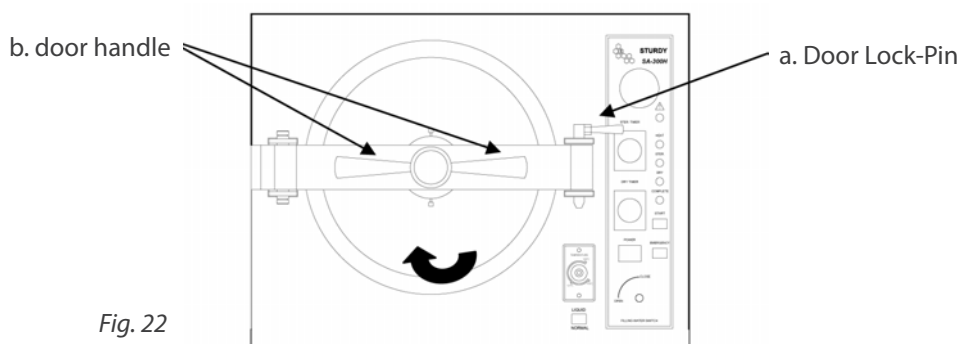

Fig. 22
E. Press the "POWER" switch to ON "I" position, the power indicator light should illuminate with a short beep. The "DOOR" indicator light should be off. (See Figure 22)